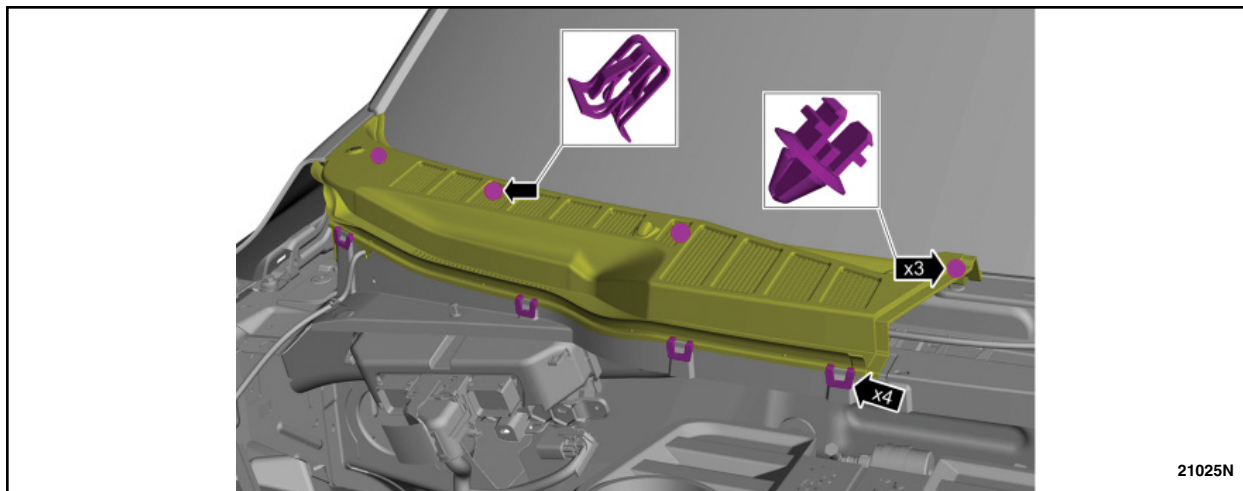

FIGURE 5
5. Release the right hand side tabs and lift the cowl trim panel to release the underside pin-type retainers. See Figure 5.